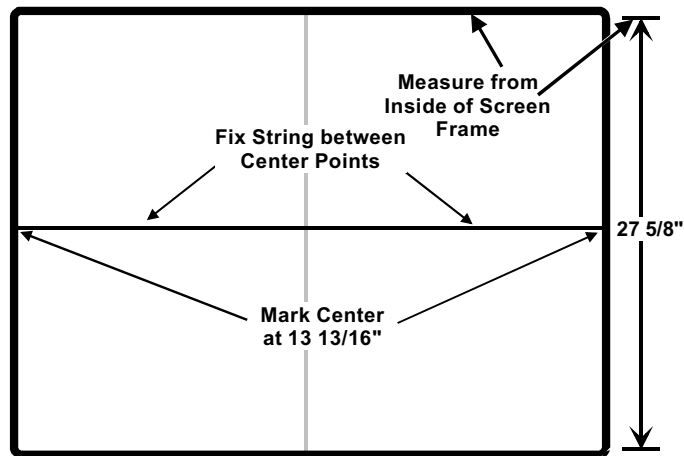

Figure 15-21, Stringing Vertical Center Line
9. In the same manner, measure and mark the vertical physical center by measuring the screen distance from inside the frame from the top to the bottom. After placing the string, the screen should look like figure 15-21.